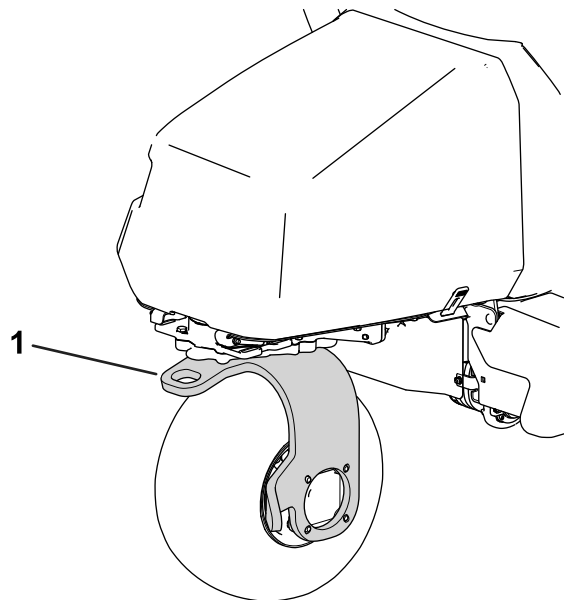

Figure 33
11. Use the rear castor fork to tow the machine (Figure 33).